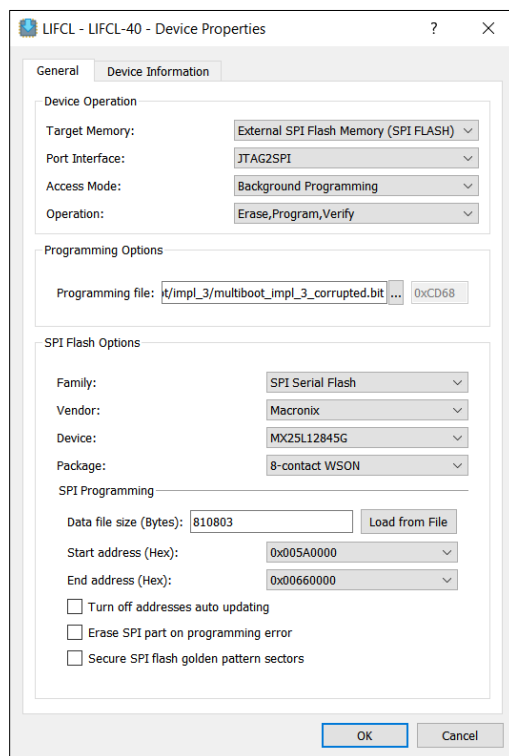

**Figure 7.10. apps\_image Showing CAFE3**
- b. Run Reveal Analyzer and the apps\_image displays CAFE3. LED D3, D4, and D5 are blinking indicating that the Alternate Pattern 3 is currently running on the board (Figure 7.10).